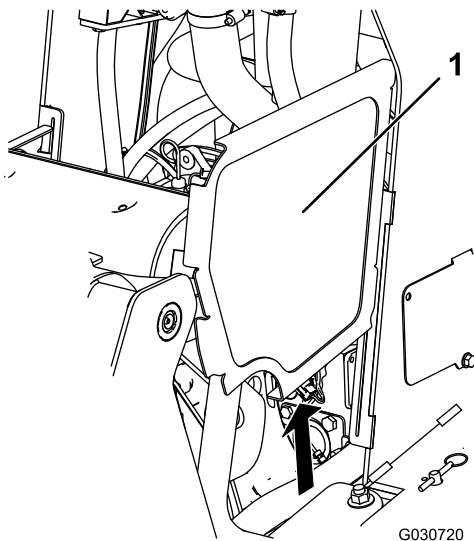

Figure 35
2. Slide the side screens (Figure 35) up and out of the slots in the front screen and frame.